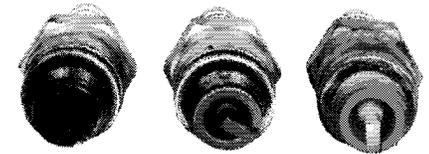

Fig. 11
3. Check condition of spark plug. Normal color is "brownish" (See Fig. 11). If spark plug color is abnormal (black or light grey) the engine is not running under ideal conditions, due to either